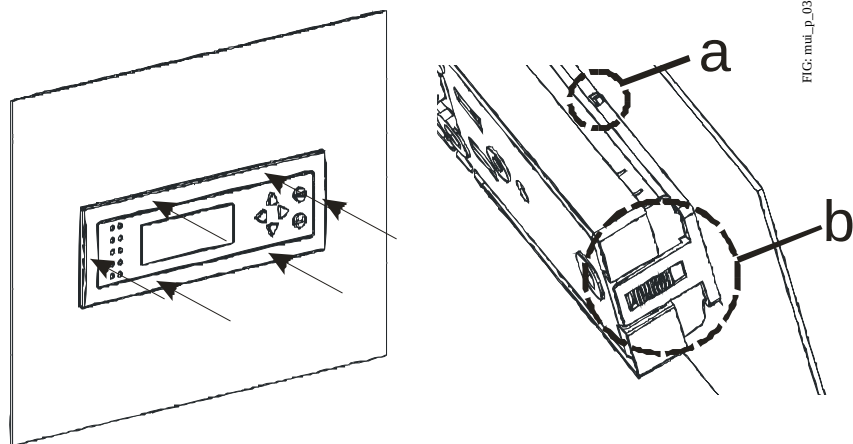

Figure 8: Fitting the MUI in a Panel
1. Carefully remove the MUI panel mount bezel (if fitted): release the **b** tabs (see Figure 8) and pull the bezel away from the MUI unit.
1. Carefully remove the panel mount bezel: release the **b** tabs (see Figure 8) and pull the bezel away from the MUI unit. Fit the two gaskets into the bezel (if not already installed).
3. Hold the MUI firmly against the back of the panel and press the bezel until it clicks into place at the six points (**a** and **b**) indicated by the arrows in Figure 8. Ensure that the **b** tabs are engaged with the lugs on the display base.